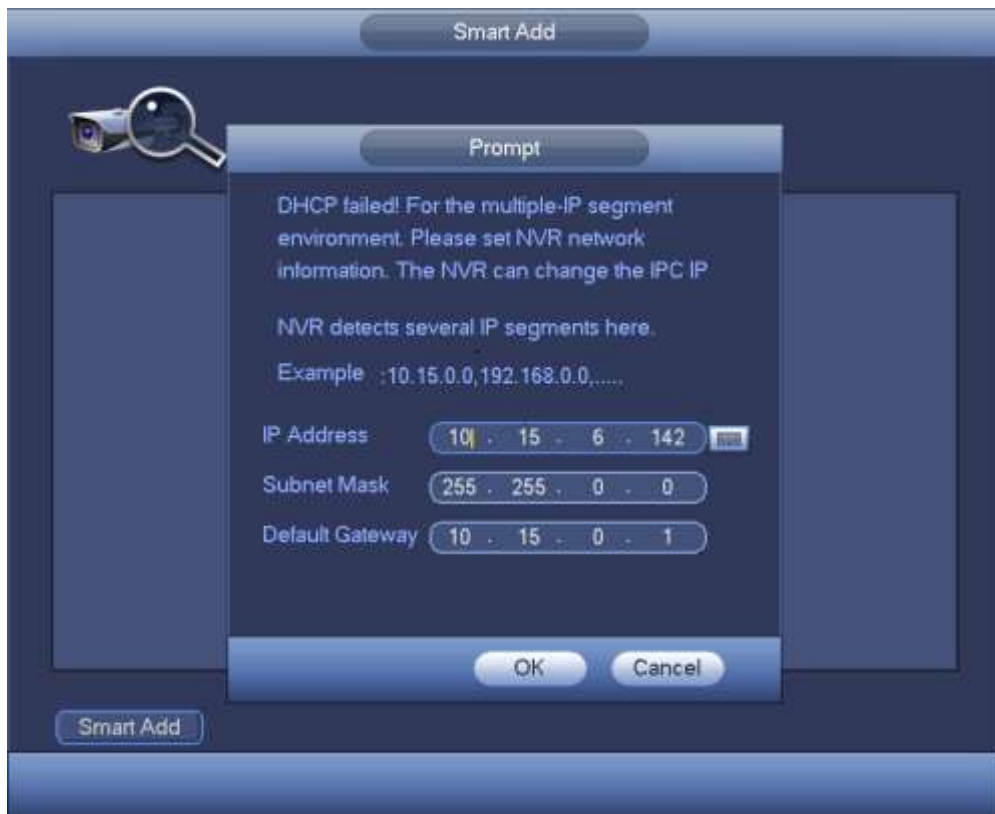

Figure 4-17
2) Device goes to change IP address interface. Please change IP address if necessary and then click OK button. See Figure 4-17. Please note this step is optional.